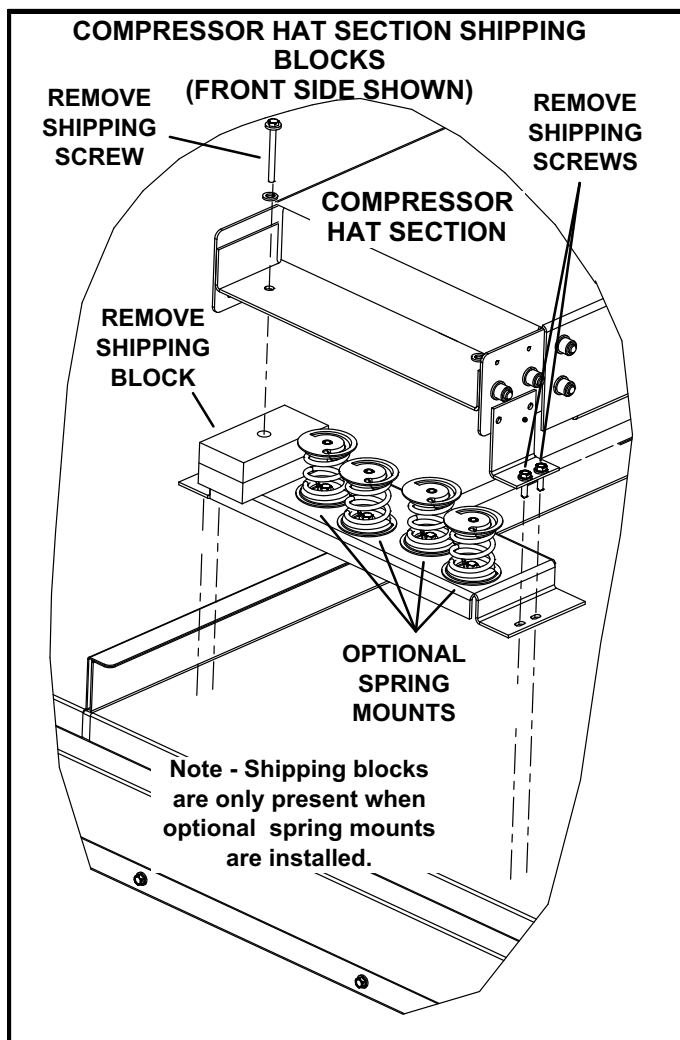

FIGURE 5
- 2- Remove two shipping blocks beneath the compressor hat section. Access one shipping block from the front side of the unit as shown in figure 5. The other shipping block is located in the same place on the back side of the unit.
- 3- Remove shipping screws. See figure 5.